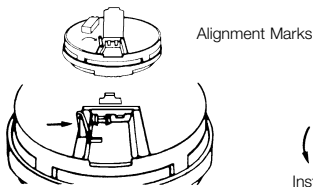

FIGURE 3
5. When installing the battery, press the battery reminder finger down into the battery compartment and install the battery (see Figure 3).